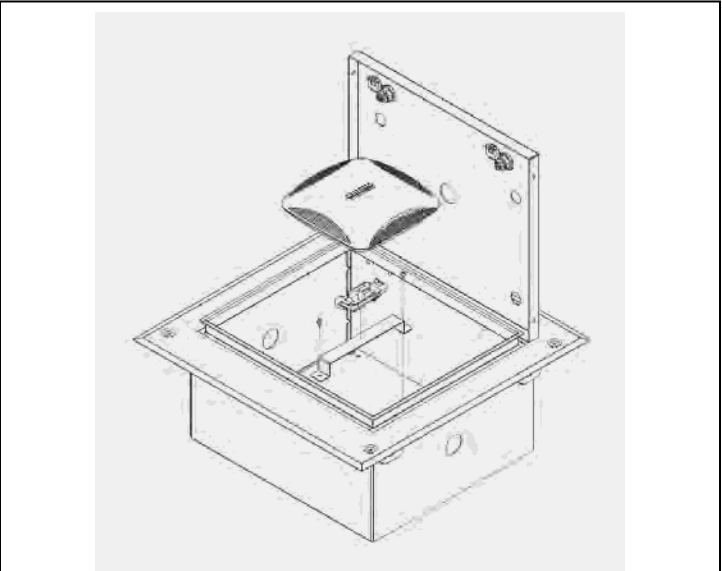

Figure 2
**Step 2b – (Any manufacturer's access points)** Install the provided "T-Bar" bracket by fastening two (2) #8 screws into the enclosure mounting plate. Attach the access point to the T-Bar bracket using the manufacturer's instructions for attaching the access point to a ceiling tile grid (T-Bar). (Figure 2).